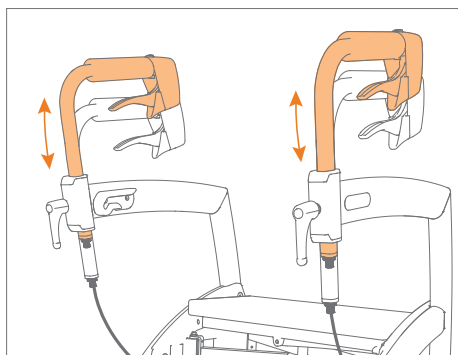

Figure 21: Set the correct height.
- c. Slide the handles to the correct height (**Figure 21**).